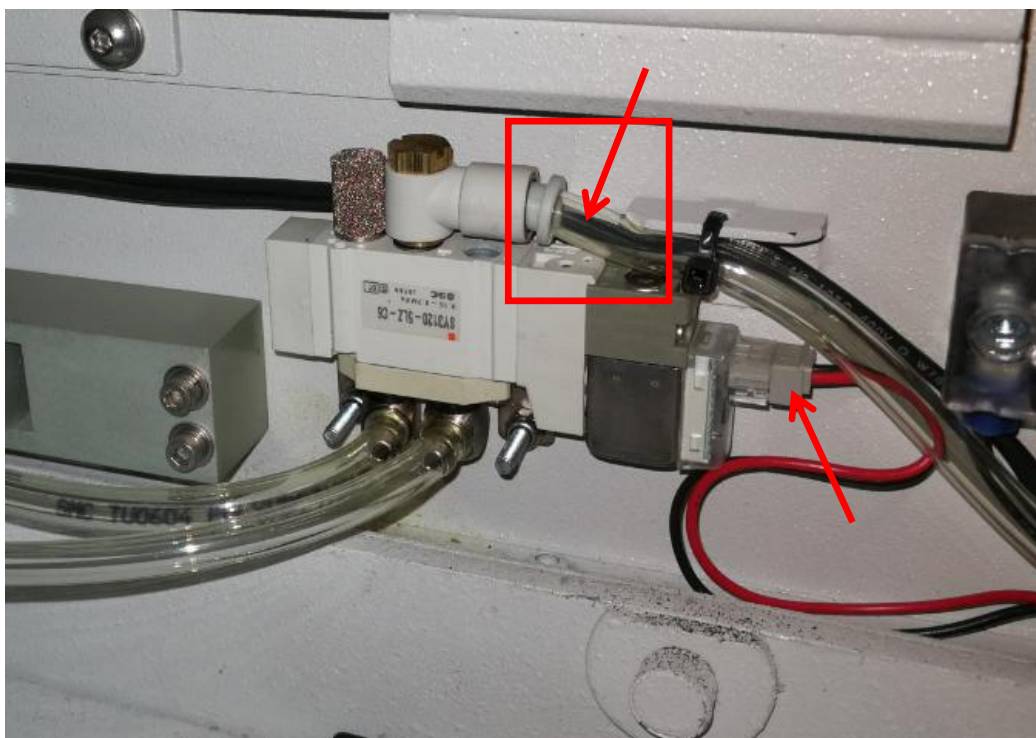

Figure 16
18. Gently plug the other end of tubing into New Outer Barrier Solenoid Valve (Inlet port) & apply cable tie to secure as Figure 16. Connect input cable.